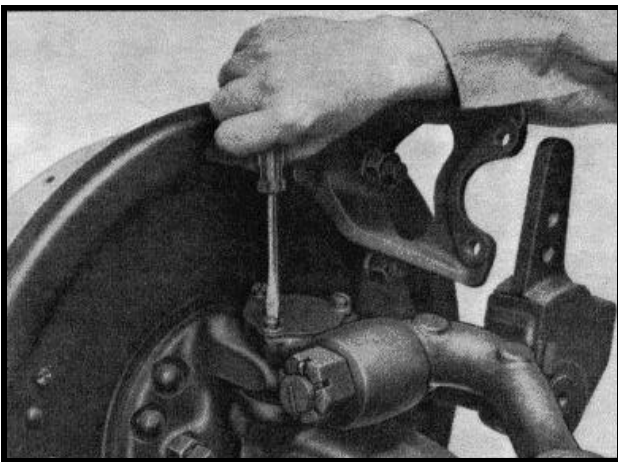

Figure 3
A. Straight Knuckle Pin Removal (Figure 3)